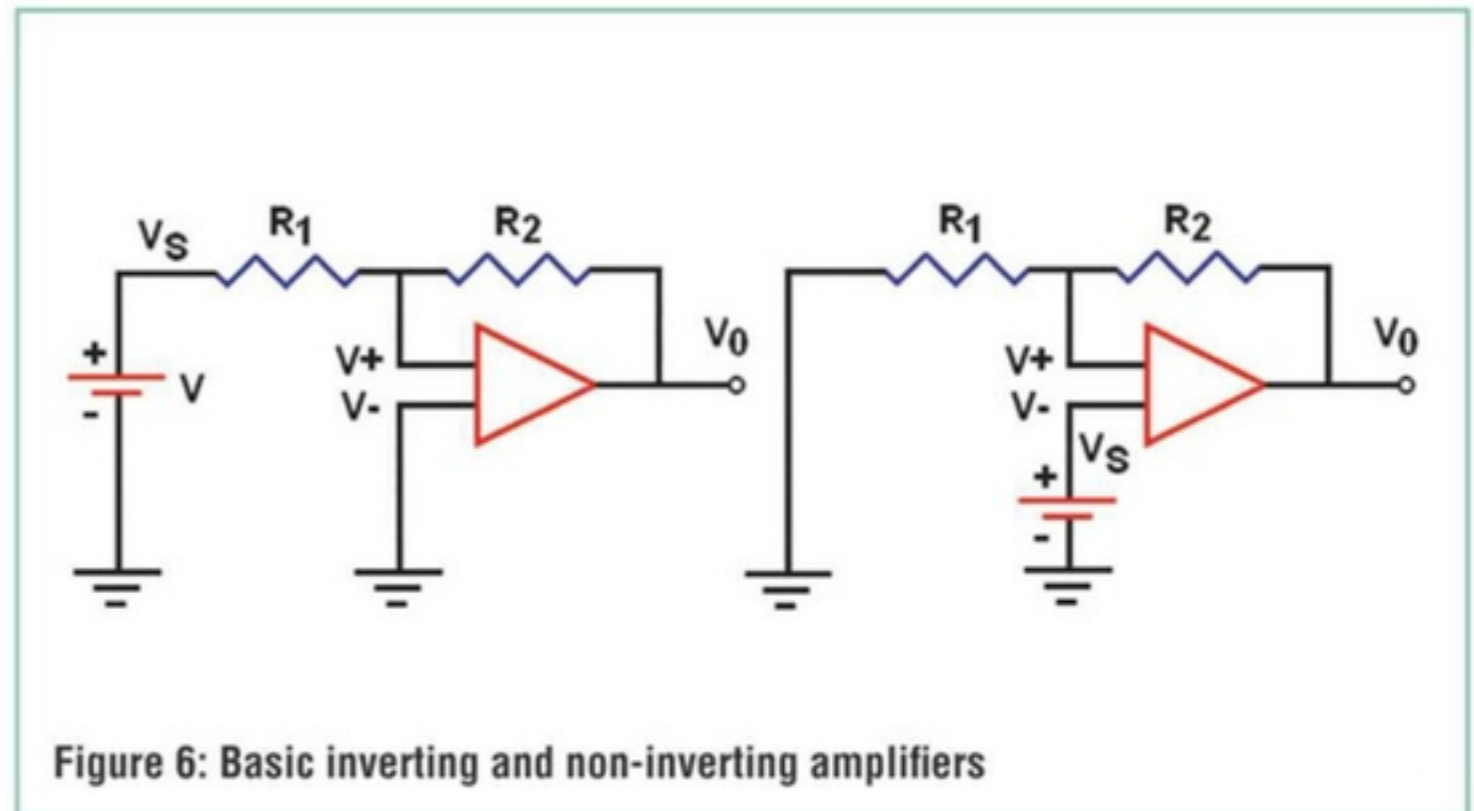

Figure 6: Basic inverting and non-inverting amplifiers
1. Inverting amplifier – “inverting” simply reverses the polarity of the input signal, as shown in Figure 6 (left). For example, if the voltage going into the amplifier is positive, it is negative when it comes out. To calculate the output signal voltage and the gain of an inverting amplifier:
2. Non-inverting amplifier, shown in Figure 6 (right) – The gain of the amplifier is determined by the ratio of R_1 and R_2 . To calculate the gain of a non-inverting amplifier use: